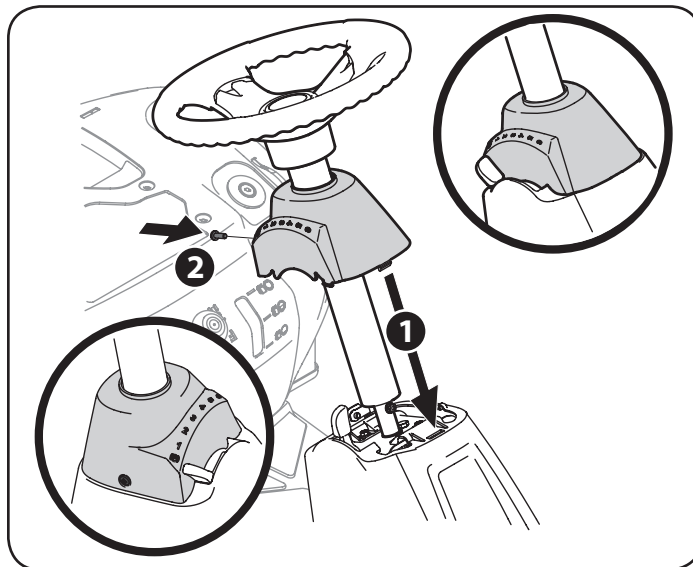

Figure 4
7. Slide the Pedestal cap down onto the tractor (1) and slightly rotate to the right to clip into place. Secure the pedestal with the screw (2) previously removed. See Figure 4.